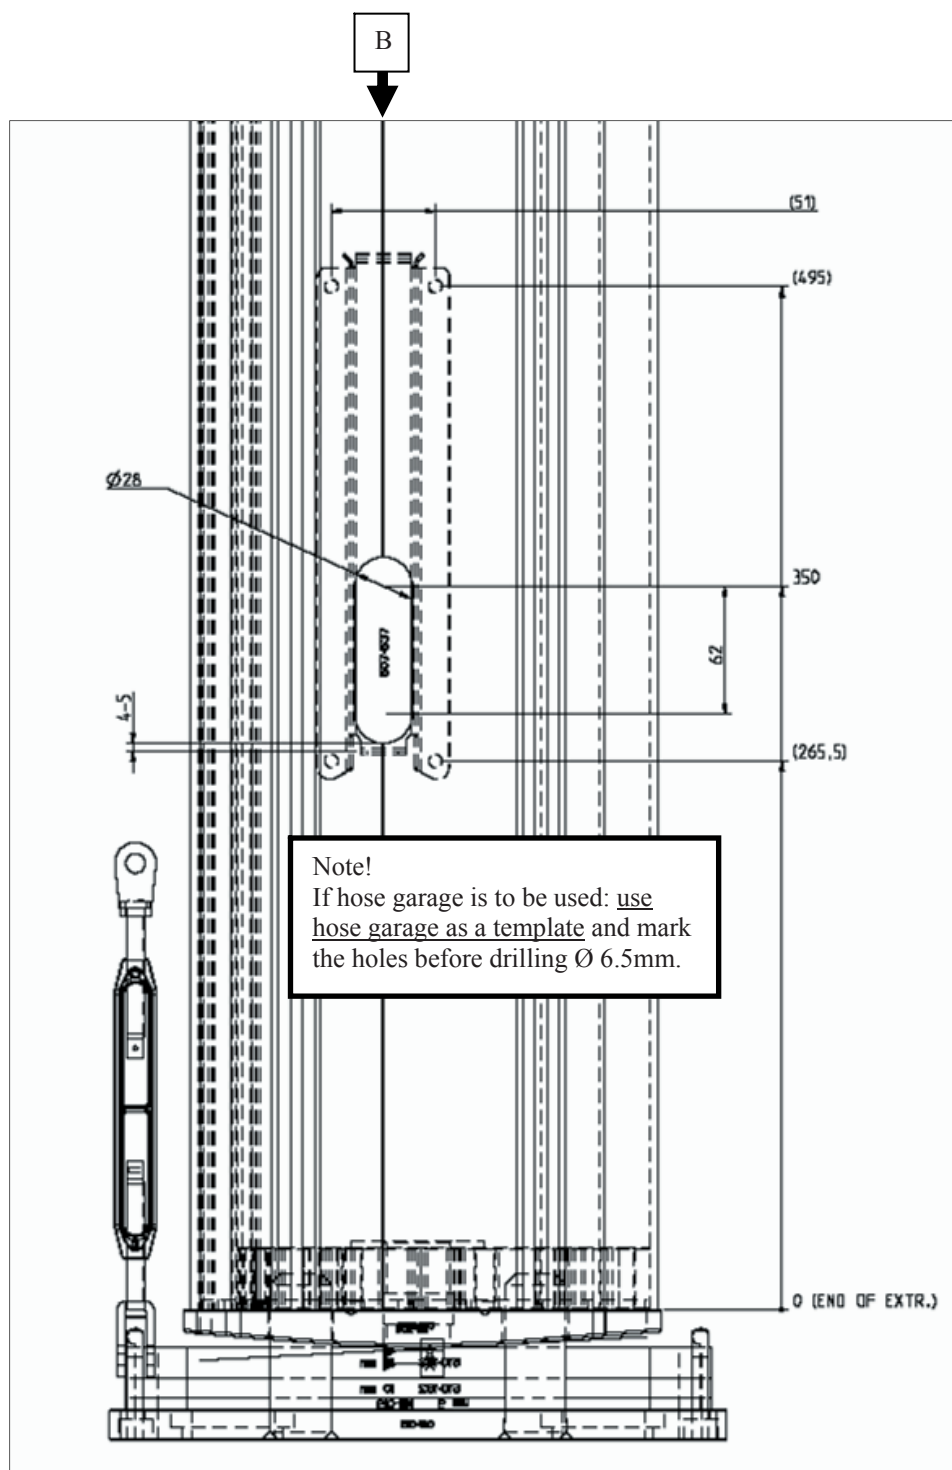

Fig. 2
2. Cut out for cable and hose exits, see fig. 2. Grind edges carefully.
16. Fit hose garage inside mast with pop rivets. See fig. 2. Make sure that the hydraulic hose is lead down into the garage from above and that it can be slid easily up and down through the garage/exit.
2. Drill two Ø 6 mm holes at c/c 20 mm as shown below, see fig. 2.a and 2.b. Using the appropriate drill jig is recommended, see table 1. Note that the holes must be drilled from inside of deck ring when using the drill jig and that this will limit the size of drilling machine that can be used.